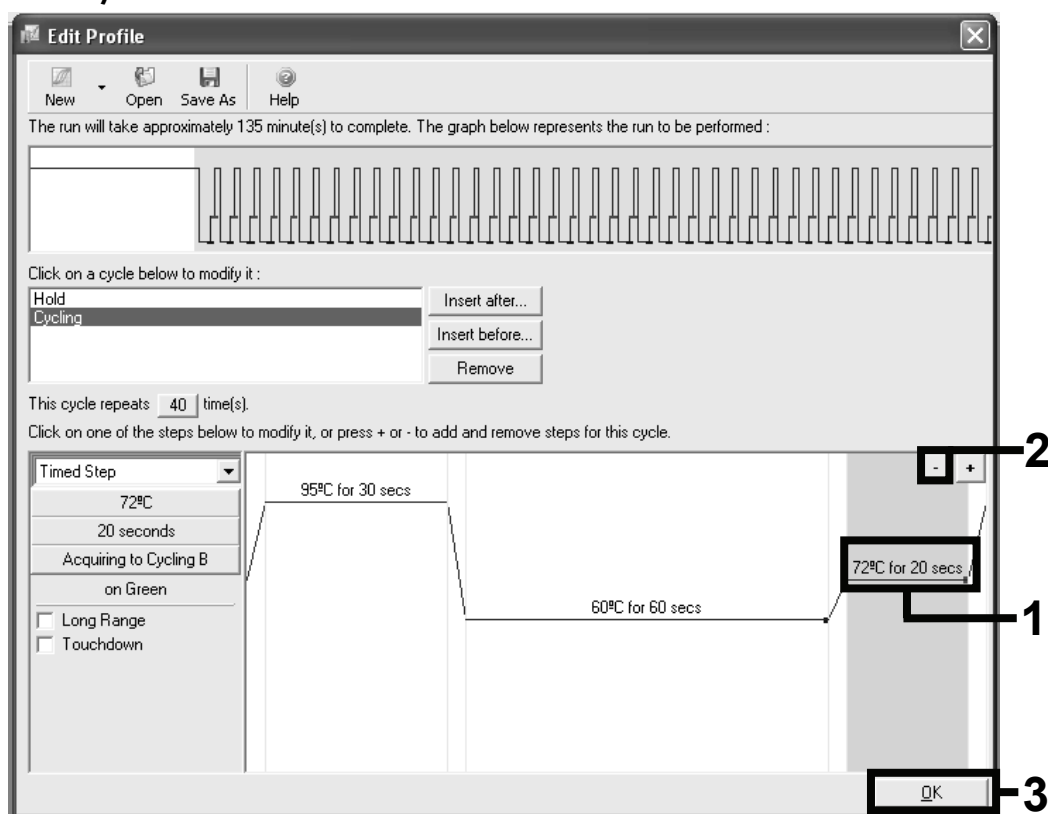

Figure 23. Removal of extension step.
18. Highlight “72°C for 20 secs” and delete this section, then click “OK” (Figure 23).